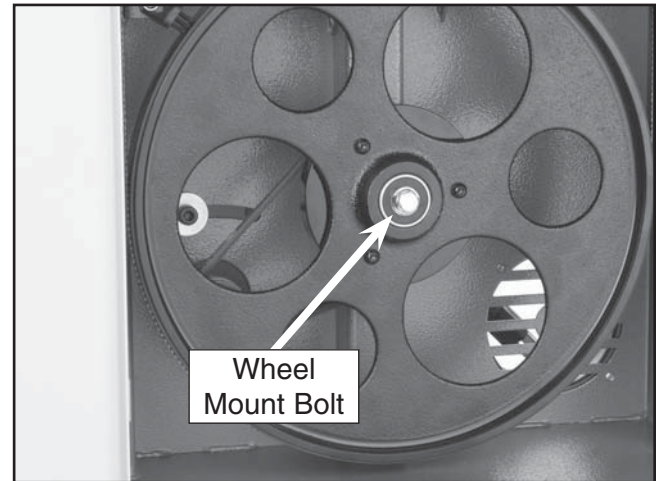

Figure 44. Wheel mount bolt.
5. Unthread the wheel mount bolt shown in **Figure 44** and slide the lower wheel off of the bearing shaft.